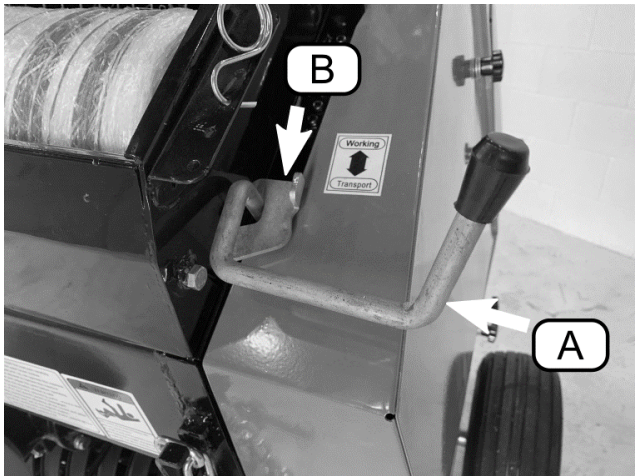

Figure 1 Top left side of baler
The pickup is held in the raised position during transport using the lift lever (Figure 1, A) and is held in place using the lock arm (B).